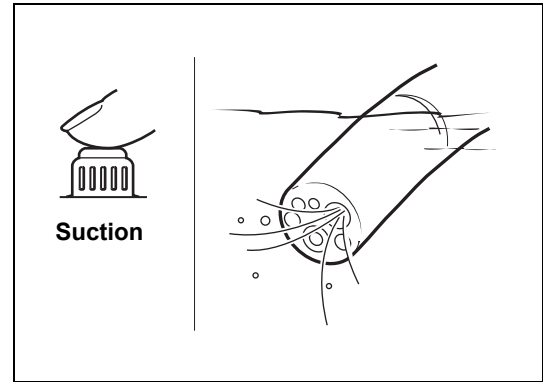

Figure 3.6
- 1 Press the suction control valve of the scope down completely and verify that water is being sucked into the distal end of the scope. (Refer to Figure 3.6)**